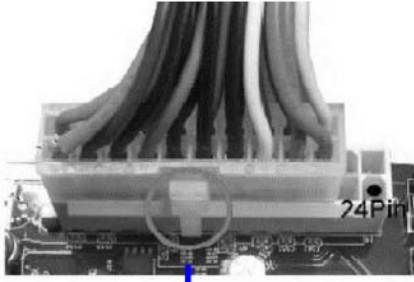

Figure1: 20-pin power plug
- \*\* If you are using a 20-pin power plug, please refer to Figure1 for power supply connection. Power plug form power supply and power connectors from motherboard both adopt key design to avoid mistake installation. You can insert the power plug into the connector with ease only in the right direction. If the direction is wrong it is hard to fit in and if you make the connection by force if is possible.